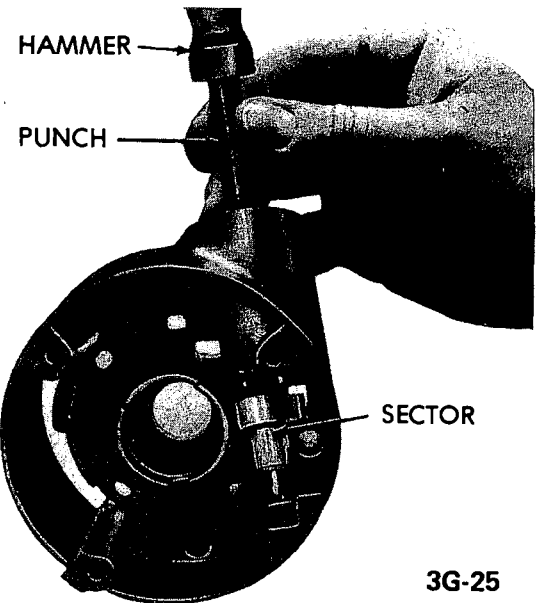

Figure 3G-91 - Installing Sector
1. Install the sector in the lock cylinder hole over the sector shaft with the tang end to the outside of the hole. Press the sector over the pin with a blunt tool. See Figure 3G-91.